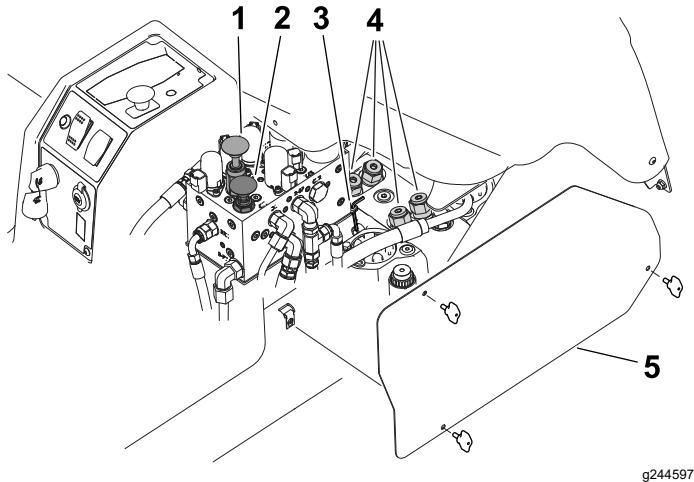

Figure 65
**Note:** A hex wrench (6 mm) is provided with the machine and is located next to the hydraulic manifold (Figure 65). Use the wrench to perform this procedure.
2. Remove the access panel from the right side of the control console (Figure 65).